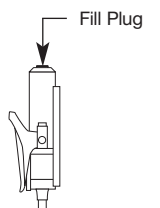

Fig. 1
1. Hold pump on end as shown in Figure 1 and remove fill plug.